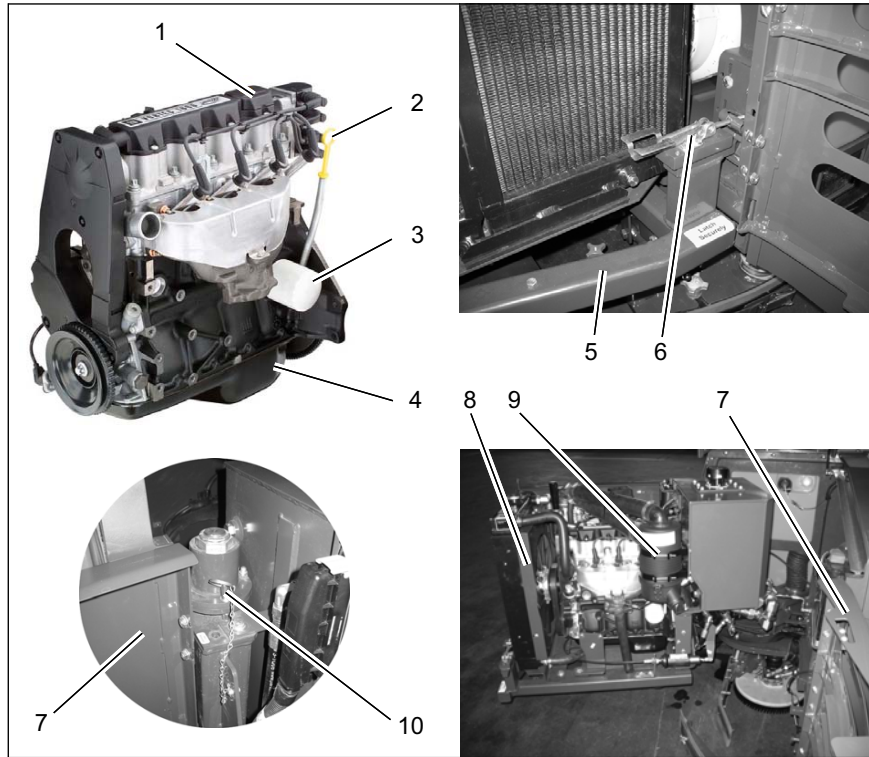

Fig.9
3. Swing open left and right engine access doors (Fig. 9/7).
4. Open lock (Fig. 9/6) and swing aside engine frame (Fig. 9/5).
5. Secure engine frame with safety pin (Fig. 9/10).
Check engine oil level at daily intervals by means of dipstick (Fig. 9/2). Refill oil if required or when engine oil pilot lamp lights.